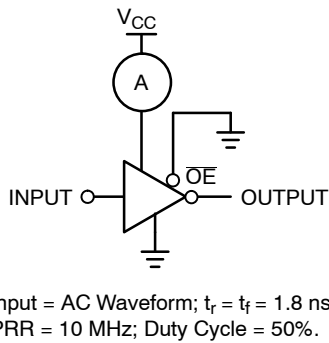

Figure 6.  $I_{CCD}$  Test Circuit
5. CPD is defined as the value of the internal equivalent capacitance which is derived from dynamic operating current consumption (ICCD) at no output loading and operating at 50% duty cycle. (see Figure 6) CPD is related to ICCD dynamic operating current by the expression: